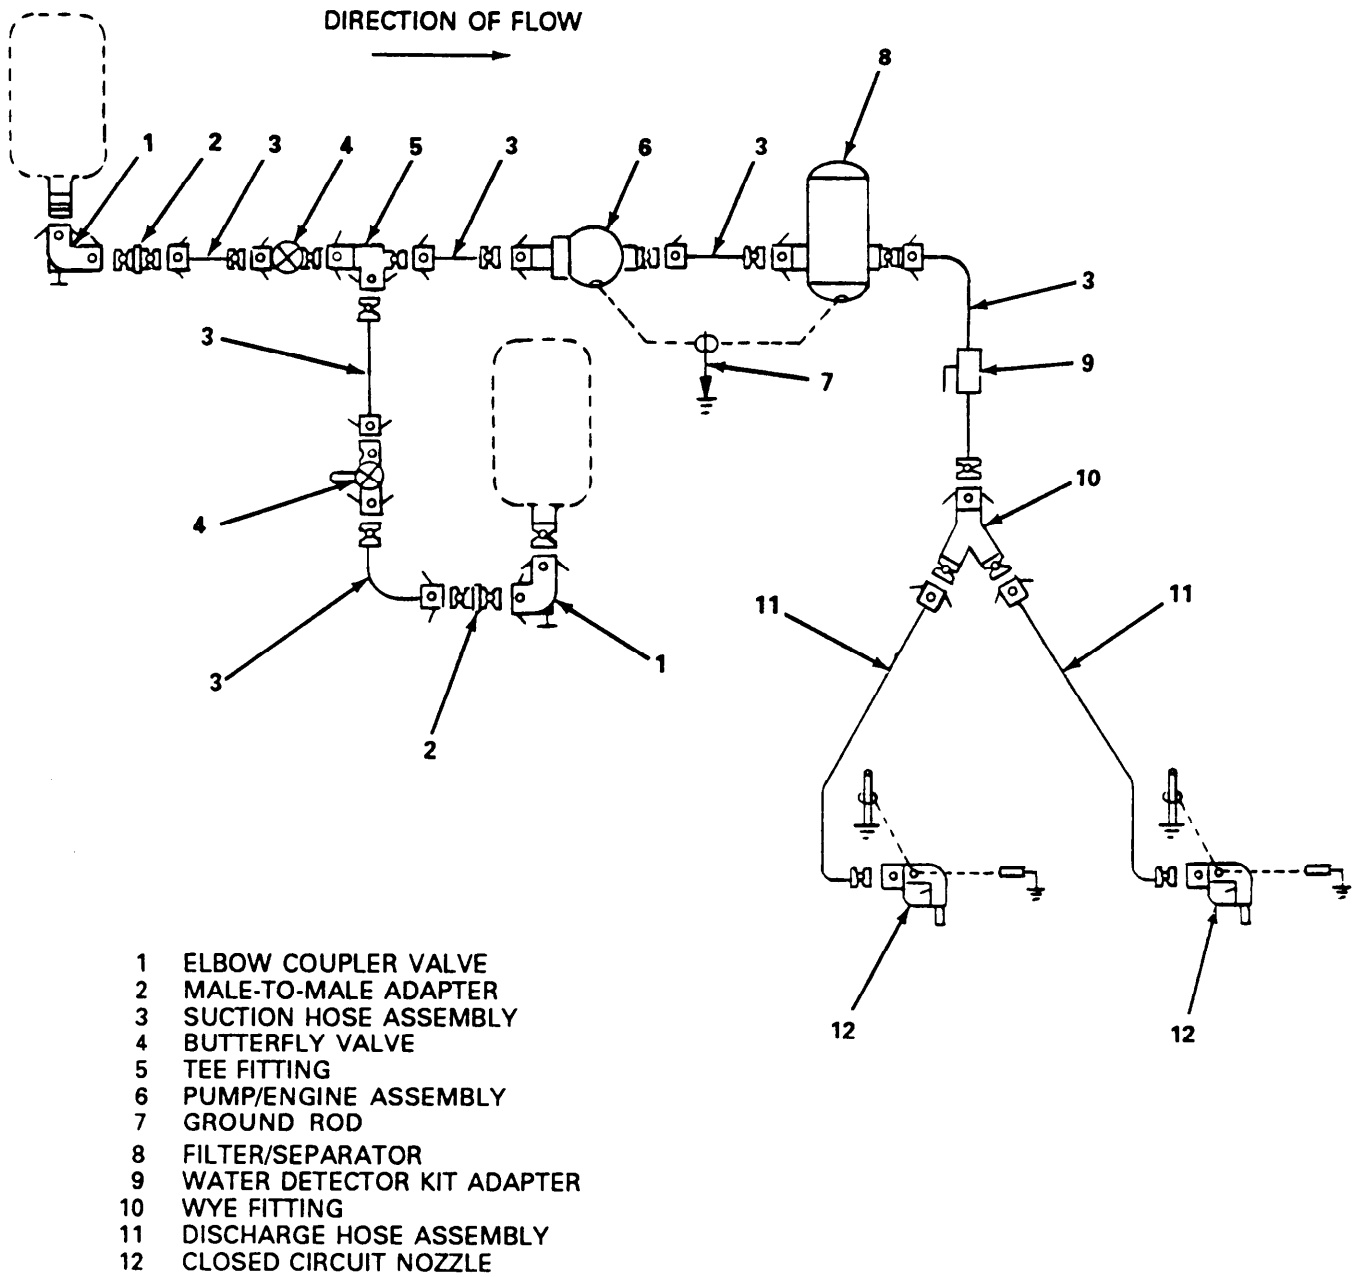

Figure 2-4. Two-Point Refueling Operation.
a. Set up the equipment as shown in figure 2-4, and install as follows:
The operational schematic in figure 2-4 shows the FARE pumping fuel from a 500-gallon (1892.5 liter) drum and distributing through two branch lines. Setup as shown, the system requires a minimum of two men for simultaneous two-point refueling and a third man or tender stationed at the pump and filter/separator. If manpower is critically short, it is possible for one man to operate the equipment with assistance of the crew from each helicopter being refueled. Many variations are possible, depending on specific need.
c. Bonding and Grounding Procedures. Refer to figure 2-4.
- b. Close elbow coupling valve (1, figure 2-4) attached to the fuel tank.